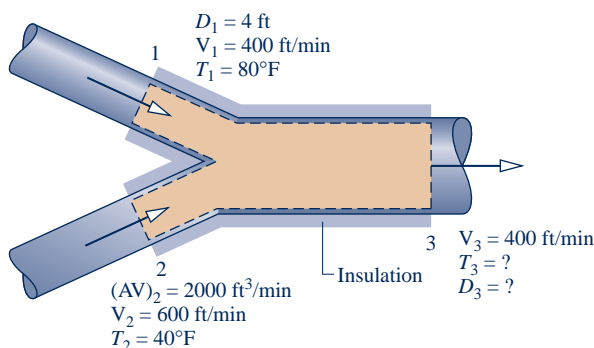

Fig. P6.111
6.111 Figure P6.111 shows data for a portion of the ducting in a ventilation system operating at steady state. The ducts are